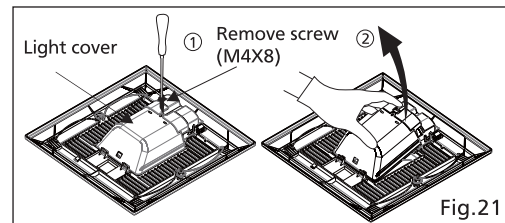

Fig.21
2. Remove the screw as shown in step ① of Fig. 21. Remove the light cover as shown in step ② of Fig. 21.